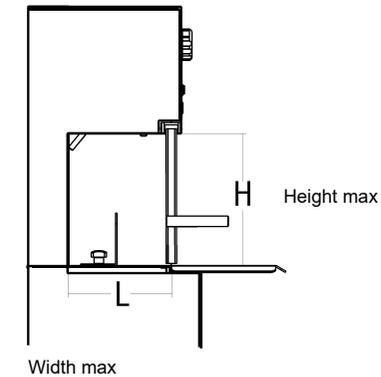

Fig.2.3.1
2.3 - Maximum dimensions of the product to be cut (Fig. 2.3.1)